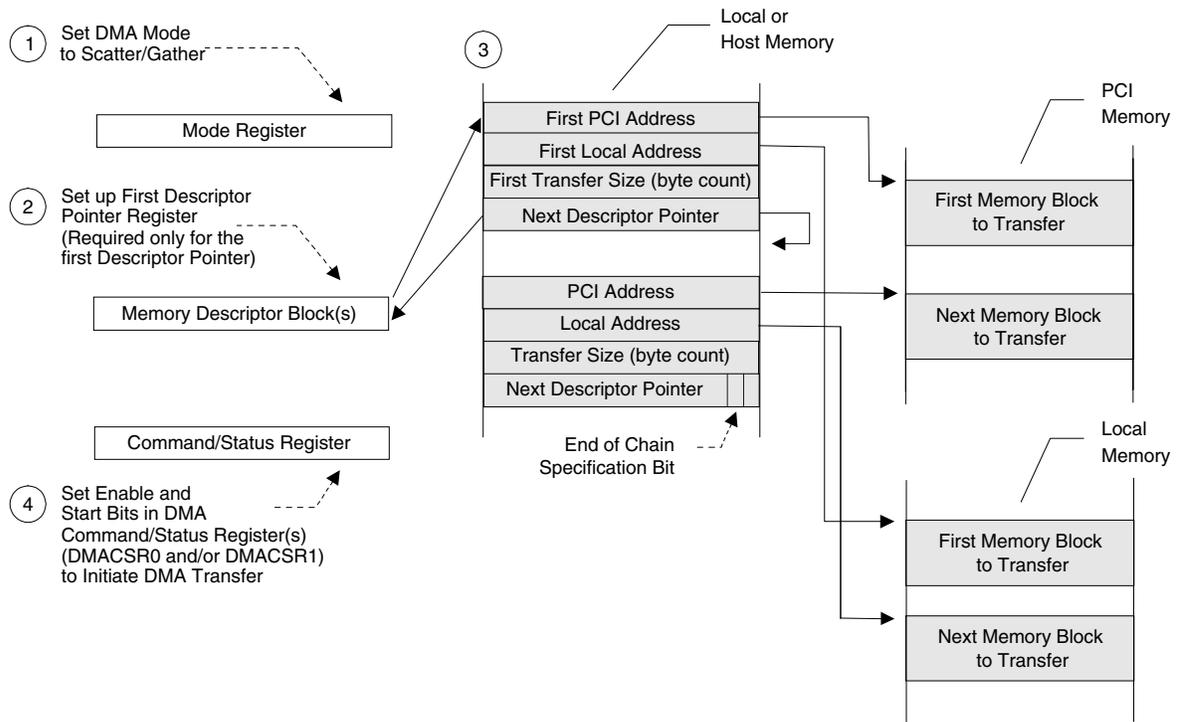

Figure 3-17. Scatter/Gather DMA Mode Descriptor Initialization [PCI SAC/DAC PCI Address (DMADAC0 and/or DMADAC1) Register Dependent]
- DMADAC0 and/or DMADAC1 contain(s) a non-zero value. DMAMODE0[18] and/or DMAMODE1[18] is set to 0. The PCI 9056 performs a Single Address Cycle (SAC) four-Lword descriptor block load from PCI memory and DMA transfer with DAC on the PCI Bus. (Refer to Figure 3-17.)